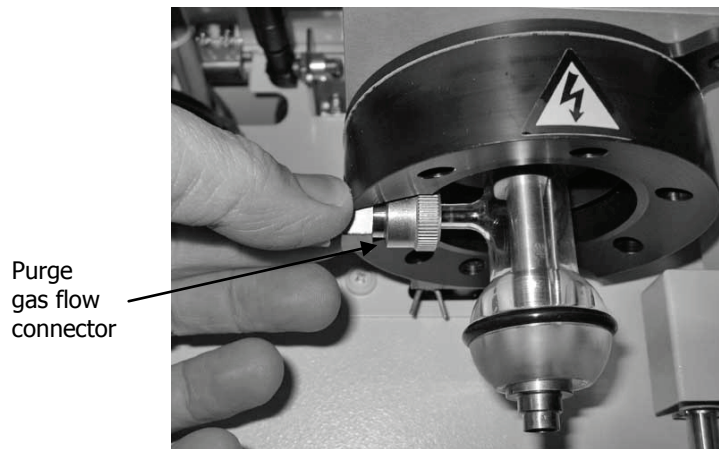

Figure 48 Removing the purge gas connector
3. Loosen and remove the purge gas flow connector at the left of the Pyris 1 TGA (Figure 48).